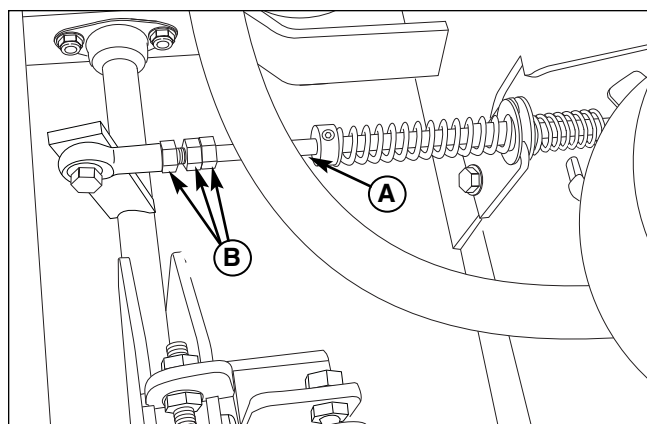

Figure 35. Neutral Adjustment
2. There are three nuts (B, Figure 35) on the linkage rod (A). The first two are to be used together to turn the rod and the third (towards the front of the machine) is used to lock the rod in place. Loosen the jam nut that locks against the ball joint and turn the linkage rod to adjust. If the machine creeps forward, turn the rod CLOCKWISE (while standing at the rear of the machine, facing forward), if the machine creeps backward, turn the rod COUNTER-CLOCKWISE.
3. Lock the jam nut (B) against the ball joint when neutral is achieved.